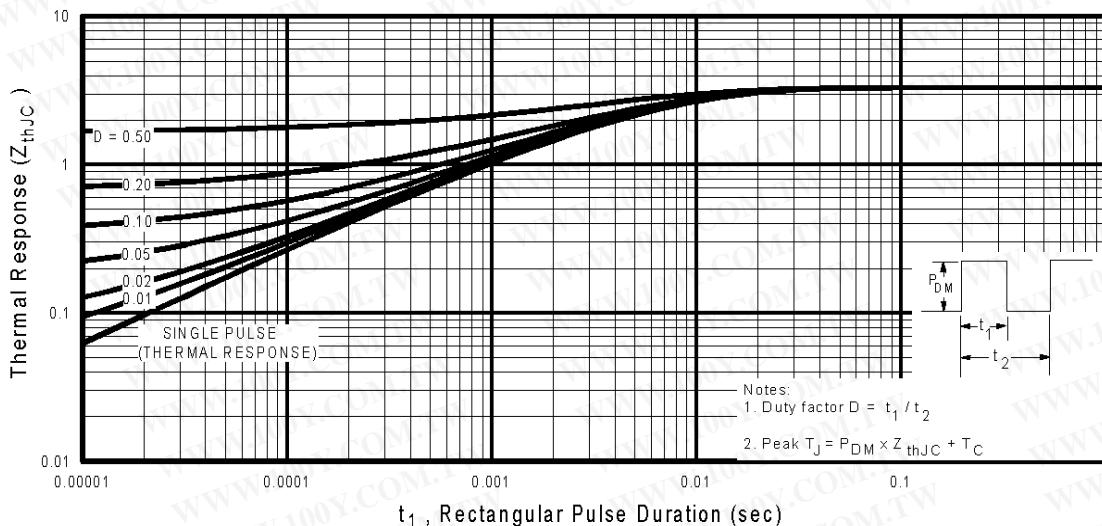

Fig 11. Maximum Effective Transient Thermal Impedance, Junction-to-Case
① Repetitive rating; pulse width limited by max. junction temperature. (See fig. 11)
④ Pulse width $\leq 300\mu\text{s}$; duty cycle $\leq 2\%$.
② Starting $T_J = 25^\circ\text{C}$, $L = 3.7\text{mH}$
⑤ Uses IRF9Z24N data and test conditions